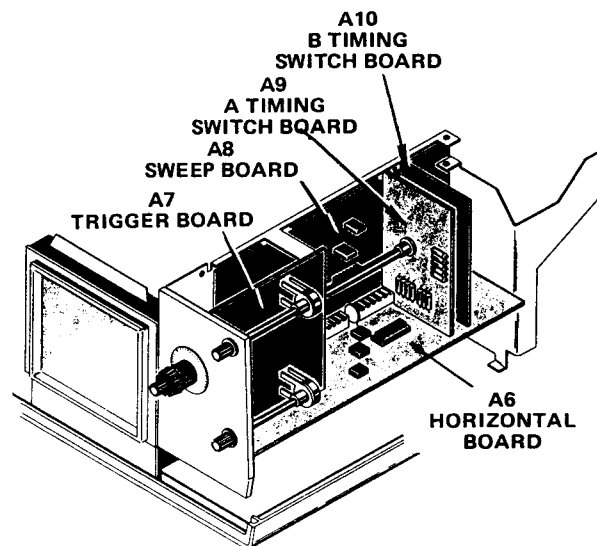

Figure 5-10. Horizontal module board locator.
(11) Remove the two screws and two nuts holding the power supply chassis divider. Loosen the small screw in the front lower right corner of this chassis (there is a heat sink on the other side). Carefully remove the chassis.
(12) Remove the rear panel and disconnect the wires and cables to the Interface Board.
(13) Remove the remaining screws holding the Interface Board to the cabinet bottom.
(14) Reinstall the board in reverse order. Be sure to properly install the heat sink when replacing the divider chassis in step (11).
j. A and B Timing Switch Board Assembly Removal and Replacement (Figure 5-10).
(1) Remove the horizontal module.
(2) Remove the VAR (1 hex screw) and the TIME/DIV knobs by loosening their set screws with a 1/16 inch hex wrench.
(3) Remove the two screws and hex nuts holding the switch board assembly.
(4) Remove the TIME/DIV knob skirt by loosening its set screw with a 5/64 inch hex wrench.
k. A AND B Timing Switch Disassembly (Figures 5-10 and 5-11).
(1) Remove the VAR shaft by loosening its set screw at the VAR potentiometer coupling with a 0.050 inch hex wrench.
(2) Remove the four screws holding the switch and boards together. Separate the boards, being careful that the switch doesn't fall out. Also, do not lose the two plastic nut retainers.
I. Trigger Board Removal and Replacement (Figure 5-10).
- (1) Remove the horizontal module.
- (2) Unplug the three multiconductor connectors.
- (3) Unsolder the B Trigger external input and its ground at the rear of the BNC connector.
- (4) Remove one screw at top rear of board.
- (5) Carefully pull the bottom of the board toward the right until it just unplugs. Then pull the board out away from the module.
(6) Replace the board in reverse order.
n. Horizontal Board Removal and Replacement (Figure 5-10).
(2) Remove the Trigger Board.
(3) Remove both screws holding the A and B Timing Switch Board Assembly. Unplug the assembly and move it far enough toward the top of the module to uncover the Horizontal Board plugs to the Sweep Board.
(4) Remove the horizontal POSITION and A TRIGGER HOLDOFF shaft knobs (see h. above).
(5) Remove the two screws holding the board (left rear corner and right front corner).
(6) Unsolder the A Trigger external input at the BNC connector and remove the board.
(7) Replace the board in reverse order.
o. Sweep Board Removal and Replacement (Figure 5-10).
(2) Remove the A and B Timing Switch Board Assembly.
(3) Remove the Trigger Board.
(4) Remove the Horizontal Board.